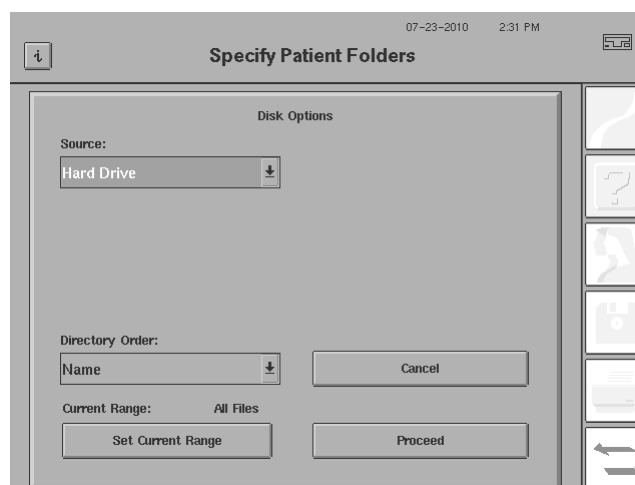

Figure 14.30 Specify Patient Folder - Disk Options Screen
- 1 Select *FILE FUNCTIONS*. Then, select *SPECIFY PATIENT FOLDERS* (Figure 14.29) to open the screen that is shown in Figure 14.30.
- 2 Touch the drop-down arrow next to the Source drop-down box. Select your source of patient data as either *HARD DRIVE* (Figure 14.30), *FLOPPY*, or a *USB storage device*.